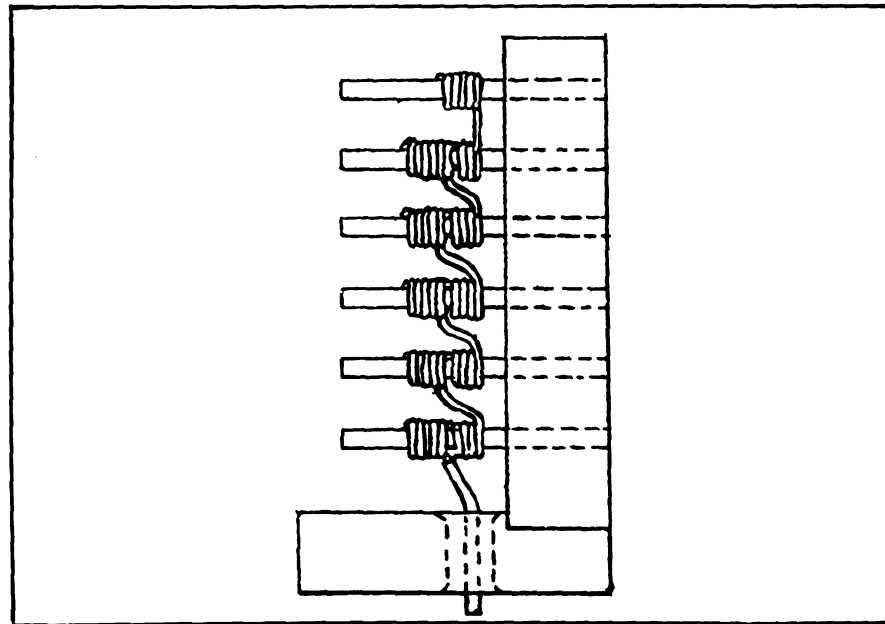

Figure 2. Strapping of Adjacent Wire Wrapped Terminals.
(5) Horizontal strapping between adjacent bank terminals. (Refer to fig 2.)
(1) Strapping between adjacent terminals. (Refer to fig 2.)